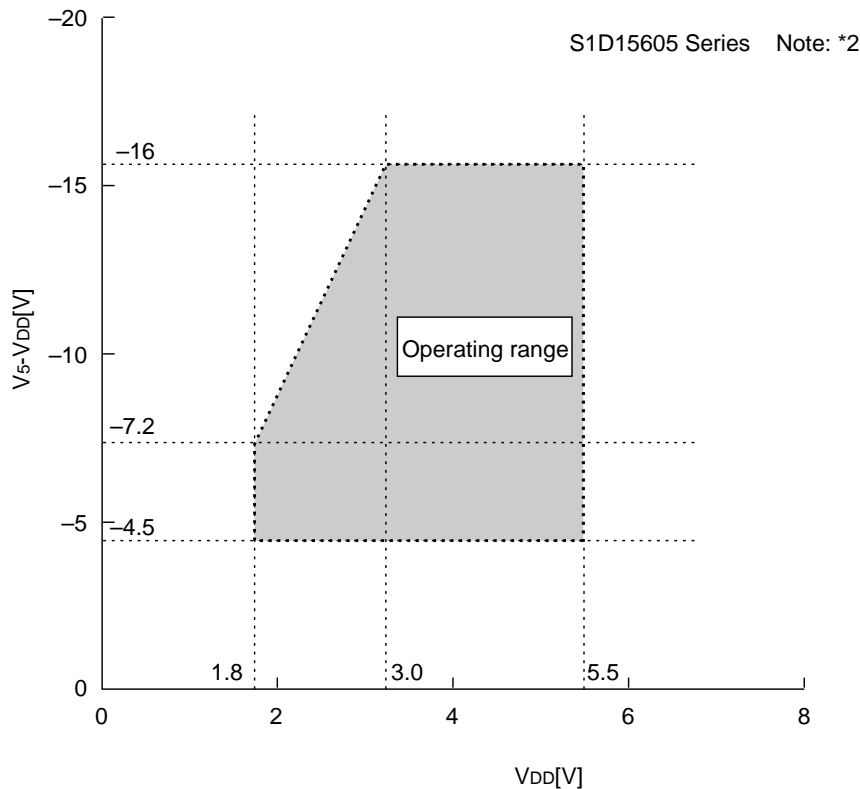

Figure 36
- *2 The operating voltage range for the VDD system and the V5 system is as shown in Figure 36. This applies when the external power supply is being used.
- *3 The A0, D0 to D5, D6 (SCL), D7 (SI), \overline{RD} (E), \overline{WR} (R/W), $\overline{CS1}$, CS2, CLS, CL, FR, M/S, C86, P/S, \overline{DOF} , RES, IRS, and HPM terminals.
- *5 The A0, \overline{RD} (E), \overline{WR} (R/W), $\overline{CS1}$, CS2, CLS, M/S, C86, P/S, \overline{RES} , IRS, and \overline{HPM} terminals.
- *6 Applies when the D0 to D5, D6 (SCL), D7 (SI), CL, FR, and \overline{DOF} terminals are in a high impedance state.
- *7 These are the resistance values for when a 0.1 V voltage is applied between the output terminal SEGn or COMn and the various power supply terminals (V1, V2, V3, and V4). These are specified for the operating voltage (3) range.